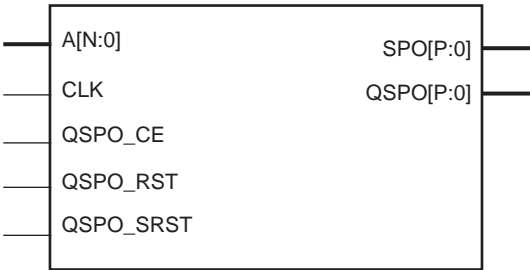
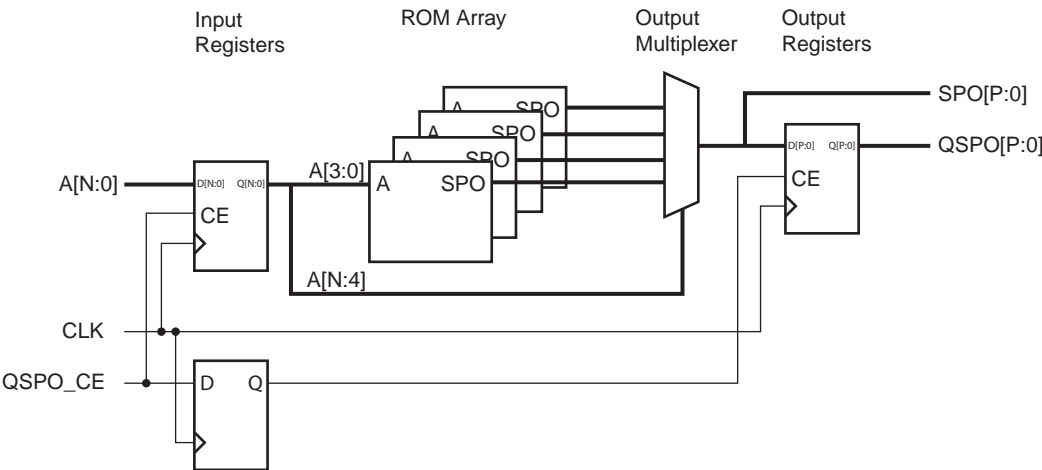

Figure 1: Distributed ROM Schematic Symbol
Figure 2: Distributed ROM Module Schematic
To create the distributed ROM, the core parses the initialization data provided by the user-supplied COE file. From that data, any necessary logic or optional registering is inferred and created. Figure 1 shows the distributed ROM schematic symbol, and Figure 2 illustrates one of the possible
- **ROM.** Figure 2 is a schematic of the structure of the ROM modules. The address register is optional (controlled by the setting of the Input Options parameter). Output registering is also optional (controlled by the setting of the Output Options parameter). Note that the clock is not required when these registers are not present. The resets and clock enables are optional.